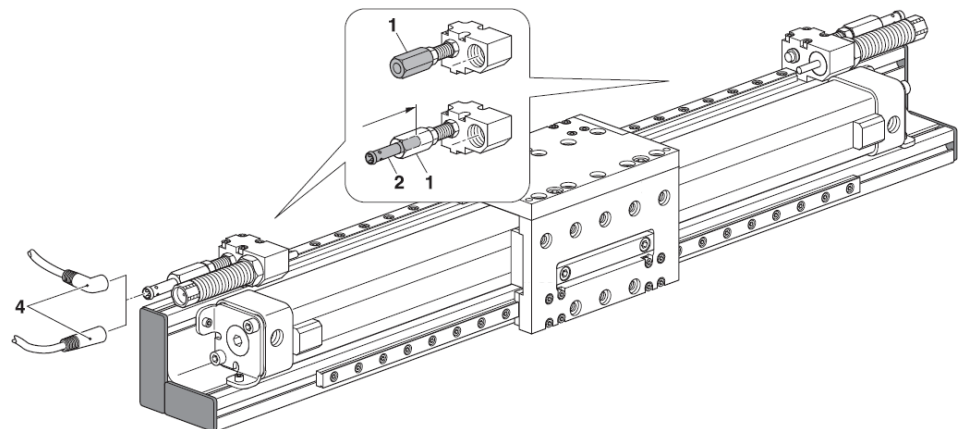

Fig. 35 Installation of initiator Ø6.5 mm in PMP-c version 01
1. Screw the initiator holder (Fig. 35, 1) onto the stop screw.
2. Insert the initiator (Fig. 35, 2+3) into initiator holder as far as it will go.
3. Slightly tighten the initiator holder (Fig. 35, 1).
4. Mount the connector (Fig. 35, 4).